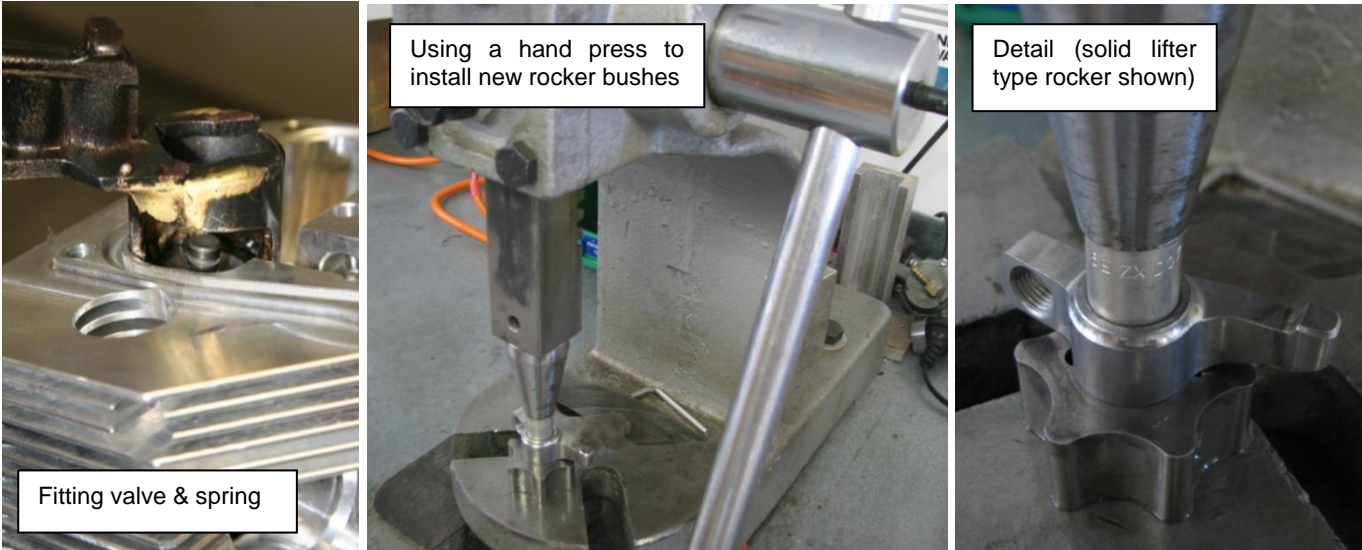

Figure 145 – Fitting Valves to Head, Fitting Bushes to Rockers
- Fit new O rings (2) to the rocker shaft bore of the cylinder head and 2 new O rings to the pushrod tube bores. Use Nulon L90 to lubricate the O rings for assembly and to prevent damaging them while fitting the rocker shaft and pushrod tubes. Do not use rubber grease as it will attack these O rings and metal parts. Note that the large rocker cover O ring is fitted later in the assembly process.
- Lubricate the valves and valve guides using oil, then fit the valve springs and collets to the cylinder head using a spring compressor as shown in Figure 145. Ensure that the lower steel washer (shown at the lower left of Figure 95 – left) is fitted to the base of each spring.
- Note that the rocker shaft and valve rockers are fitted later in the assembly process. However now is the time to fit new bushes to the rocker arms (if needed). A special tool and a hand press (as shown in Figure 145) simplifies this job. Orient the new bushes so that the joint in the bush is pointing away from the crankshaft. Additional details are shown in section 5.11.8.